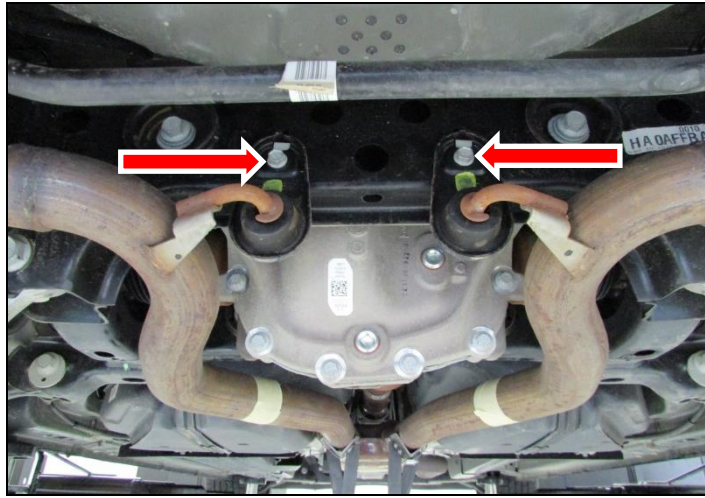

Figure 4
7. Remove (x2) 13mm head bolts securing the left and right side front OE muffler isolation mount brackets to the chassis (Figure 4). Set these parts aside as they will be re-used.